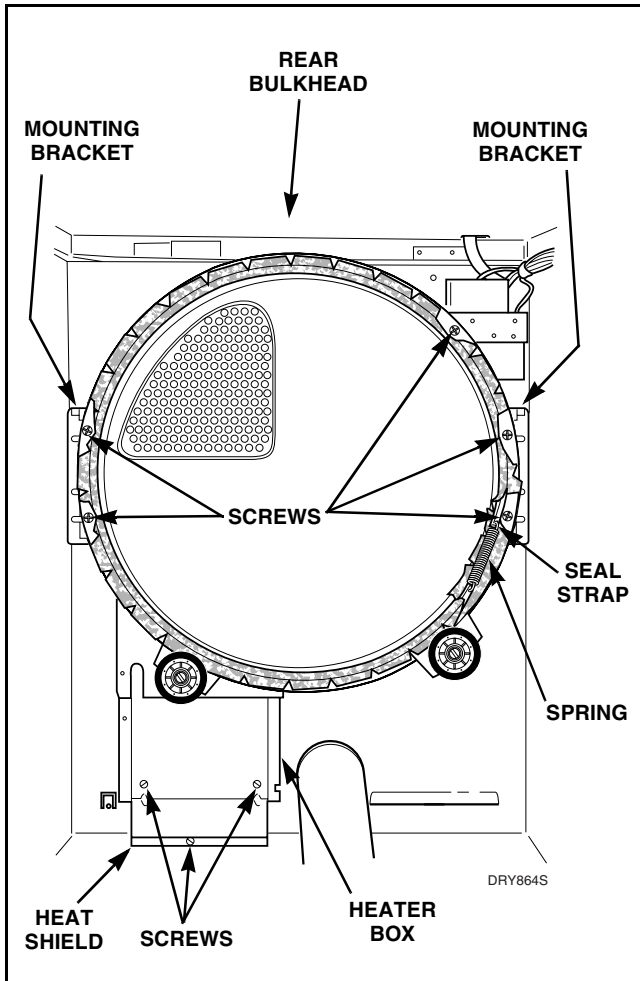

Figure 34
- k. Remove screw holding heat shield to dryer base. Refer to *Figure 34*.
- l. Remove one screw holding rear bulkhead to terminal block bracket. While supporting bulkhead, remove the four screws holding rear bulkhead to mounting brackets, then lift complete assembly out of dryer. Refer to *Figure 34*.
- (1) Remove two screws holding heat shield to heater box. Refer to *Figure 34*.